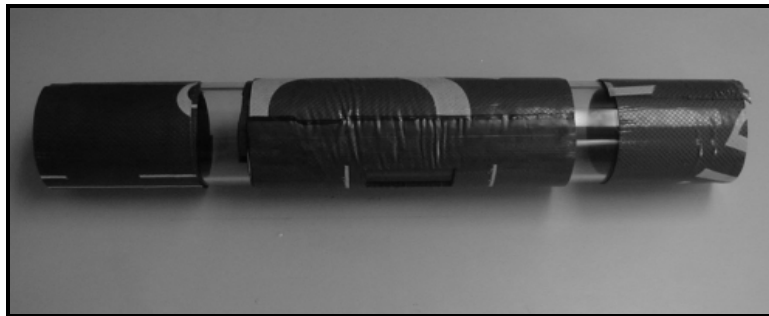

Figure 35: Completed DMP-1 Installation
12. Wrap each of these strips around the pipe on the outside edge of the clamping fixture, one upstream and one downstream. The completed dampening material installation should appear similar to Figure 35 below.